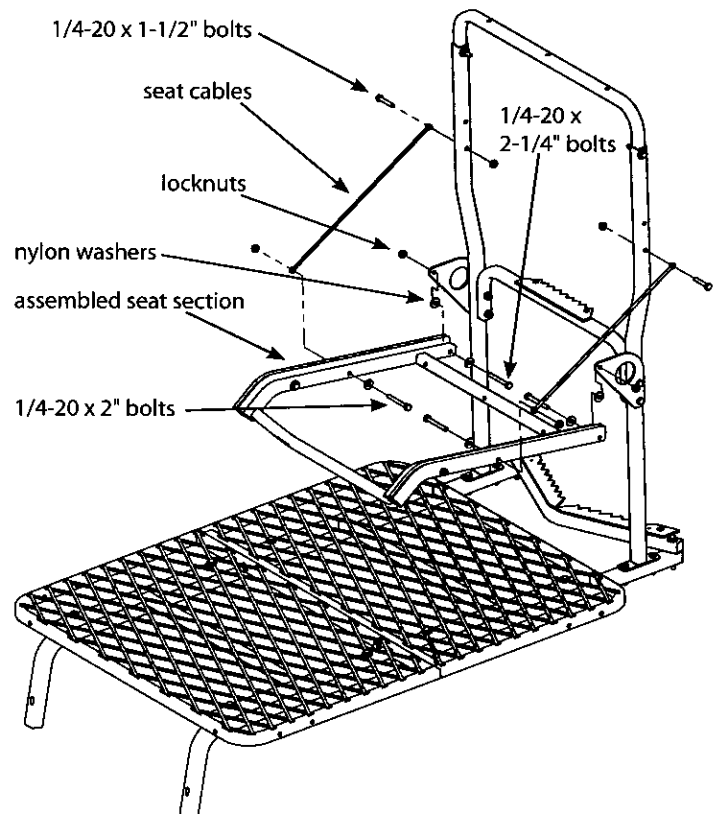

Figure 6
8. Attach the assembled seat section to the previously assembled seat pivot brackets using (2) provided 1/4-20 x 2-1/4" bolts, locknuts, steel washers and nylon washers. **SEE FIGURE 6.** Nylon washers should be placed between fabric rail mounts and seat pivot brackets.
9. Attach the loose ends of the two seat cables to the seat upright weldments using (2) provided 1/4-20 x 1-1/2" bolts and locknuts. **SEE FIGURE 6.**